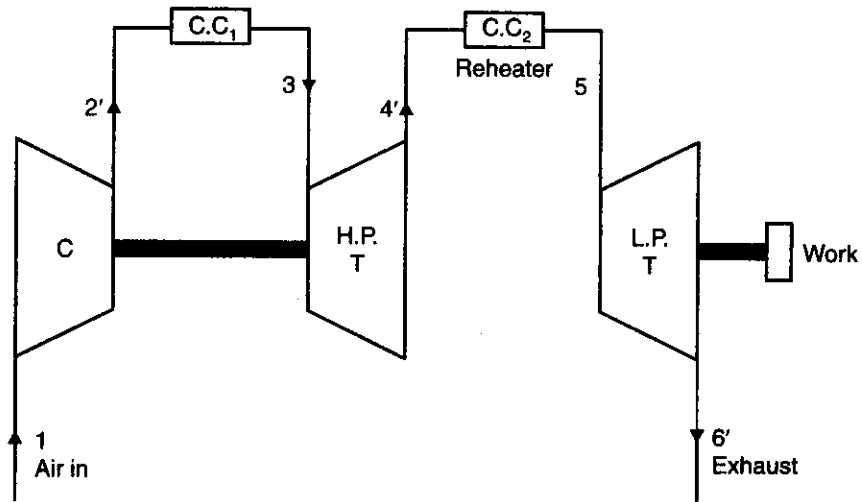
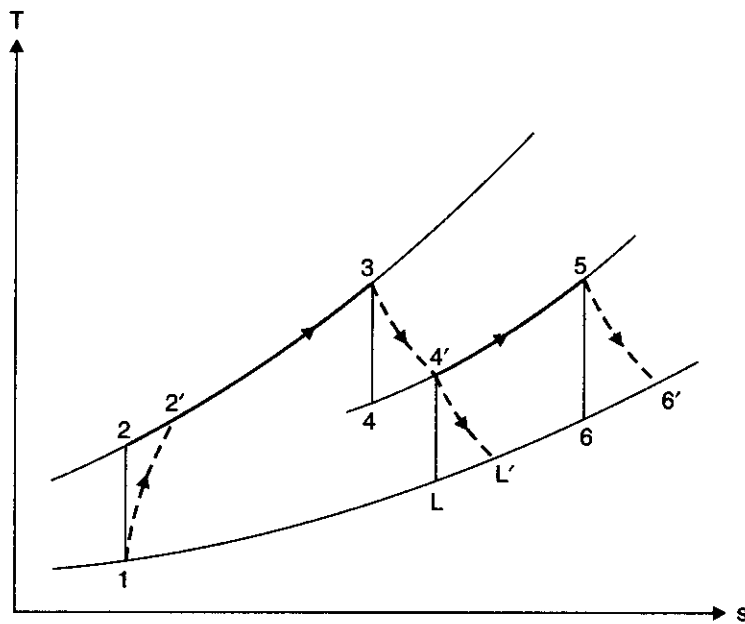

Fig. 13.39. Gas turbine with reheat.
Fig. 13.40.  $T$ - $s$  diagram for the unit.
**2. Reheating.** The output of a gas turbine can be amply improved by expanding the gases in two stages with a *reheater* between the two as shown in Fig. 13.39. The H.P. turbine drives the compressor and the L.P. turbine provides the useful power output. The corresponding  $T$ - $s$  diagram is shown in Fig. 13.40. The line  $4'$ - $L'$  represents the expansion in the L.P. turbine if reheating is *not* employed.